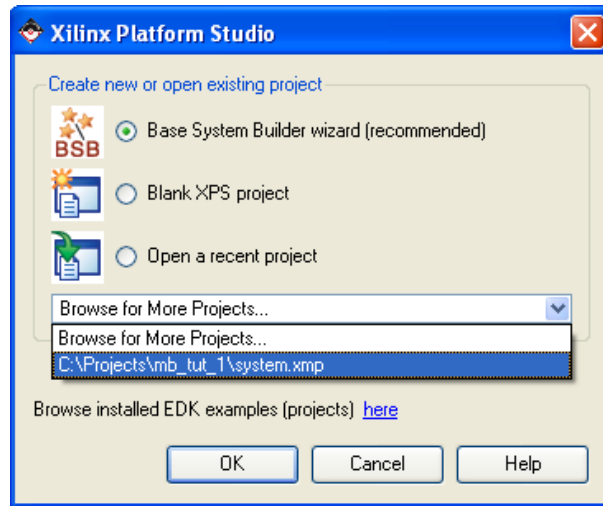

Figure 1: Open an Existing Design
- Open the design you created in the tutorial “MicroBlaze Tutorial on EDK 10.1 using Sparatan III E” as shown in Figure 1.